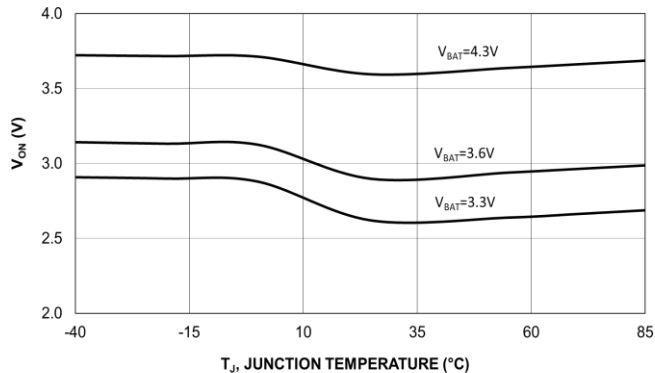
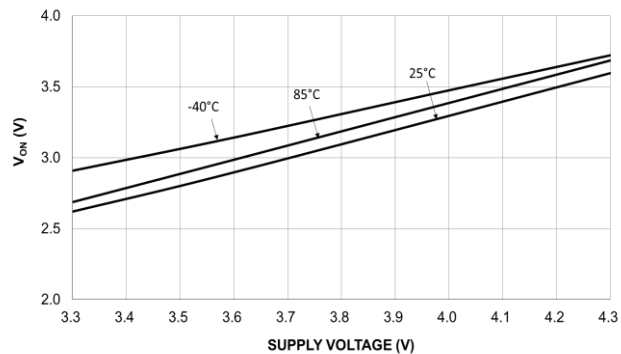

Figure 9. Von vs. Temperature
Figure 10. Von vs. Supply Voltage
2. Von at different V_{BAT} and different temperature refers to Figure 9 and Figure10